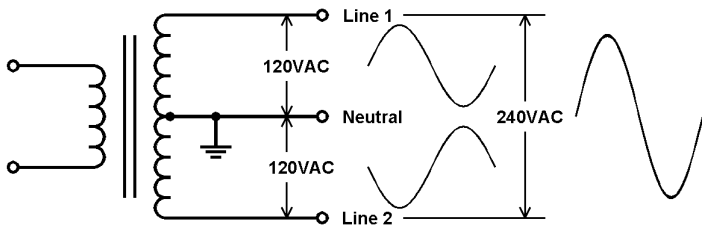
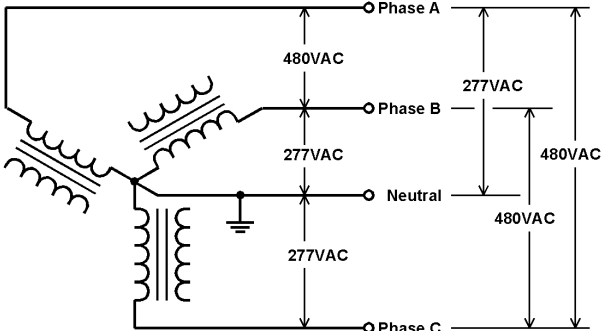
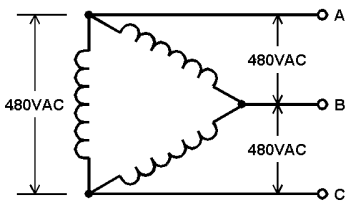

Figure 1 – Single Phase 120V/240V Power System ("split single-phase")
Fig 5 – Three Phase 480V/277V Power System
Fig 6 – 480V Delta
shown in Figure 1 (this system is often called “split single-phase”). The center-tap is grounded and becomes the neutral for 120V equipment and for outlets connected to either Line 1 and Line 2. Note the voltage waveforms for Line 1 and Line 2 are out of polarity with each other, so that large equipment that needs 240 volts connects to the entire secondary winding (and no connection to neutral unless that equipment also needs 120V). A few older homes may have only a 120V service, but it is likely that the distribution transformer outside the home has a 240V center-tapped secondary, even though only one side is brought into the home.
In countries where 120V/208V power is standard, the largest facilities are typically connected to a 480V/277V service in a three-phase wye configuration, as shown in Figure 5, or a three-phase delta, as shown in Fig 6. Some of that power may be utilized directly at the supplied voltage for large motors and fluorescent lighting, but distribution transformers inside the building will also step that voltage down to 208V/120 V wye for use by most equipment and systems. Again, three-phase power may be used to run motors, but most power will be distributed at 120V single phase to equipment and outlets. Phase relationships are the same as for 208V/120V systems – the two systems differ only in the turns ratio of the distribution transformers and the voltage rating of their components. A transformer fed from one of the phases and having a 240V center-tapped primary (Fig 1) will be used to feed high power equipment that needs 240V and can also be used to feed 120V to equipment and ordinary outlets. Where 230V/400V power is standard, even the largest buildings will have a 400V 3-phase feed.
The three-phase Delta configuration (Fig 6) has no neutral. This configuration is used only in industrial buildings and in distribution outside of buildings. One leg may be grounded, but NEC does not require that there be a grounded conductor.
- 120/240V single phase (Figure 1)
- 3-wire Delta (Figure 6)